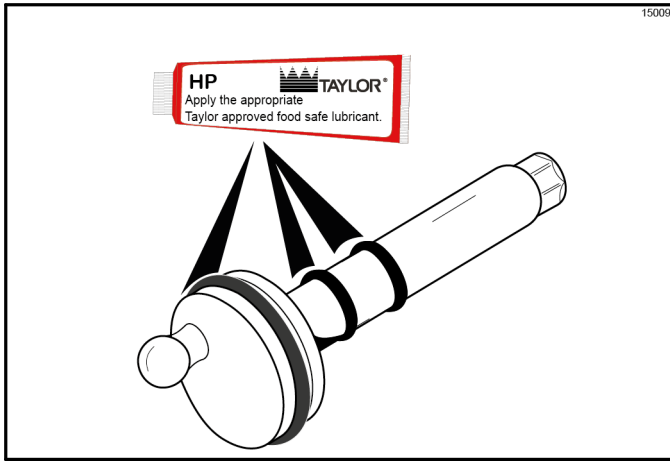

Figure 6-28
12. Slide the large O-ring and two small O-rings into the grooves on the pump driveshaft. Thoroughly lubricate the O-rings and the shaft. **Do not** lubricate the hex end of the shaft. (See Figure 6-28.)